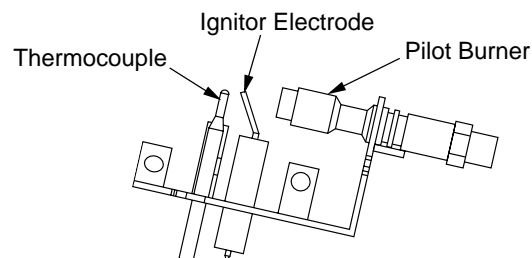

Figure 39 - Pilot
4. Wait five (5) minutes to clear out any gas. Then smell for gas, including near the floor. If you smell gas, **STOP!** Follow "B" in the safety information, column 1. If you don't smell gas, go to the next step.
5. Slightly depress and turn control knob counterclockwise  to the PILOT position. Press in control knob for five (5) seconds (see Figure 39).